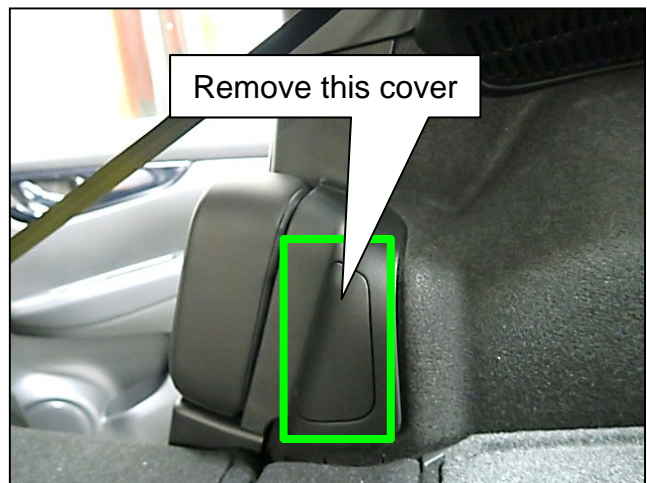

Figure 5
5. On the passenger (RH) side of the vehicle, remove the trim cover shown in Figure 5, using a finesse stick.